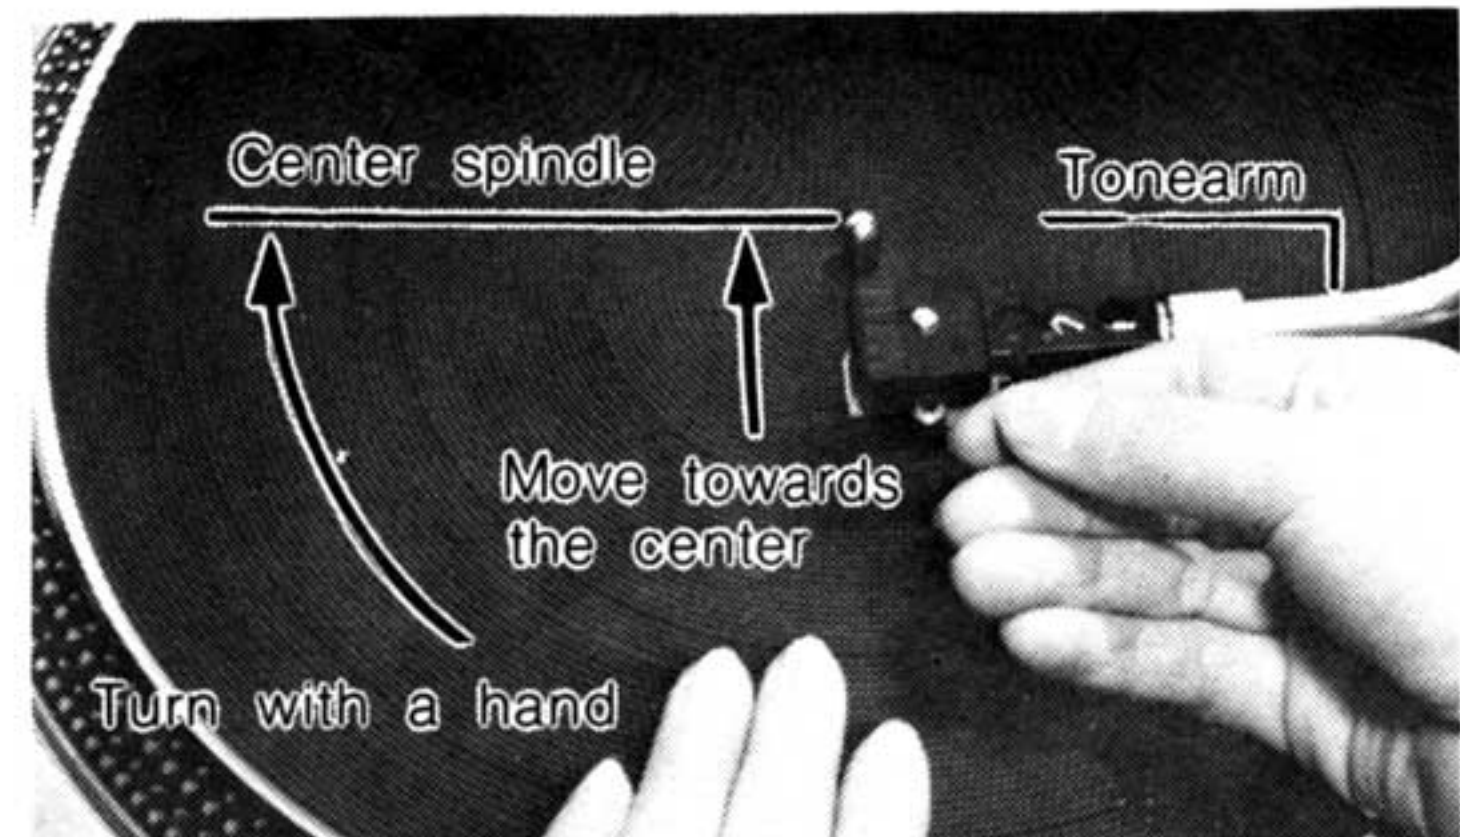

Figure 6
- 1) After having placed the turntable mat, manually rotate the turntable platter clockwise (in the direction shown by the arrow) about 10 times, with the tonearm moved towards the center spindle to allow it to automatically return one time. (See Fig. 6) This operation is to ensure that there is no engagement or displacement between the tonearm driving section and the automatic returning mechanism, which may have taken place during transit.